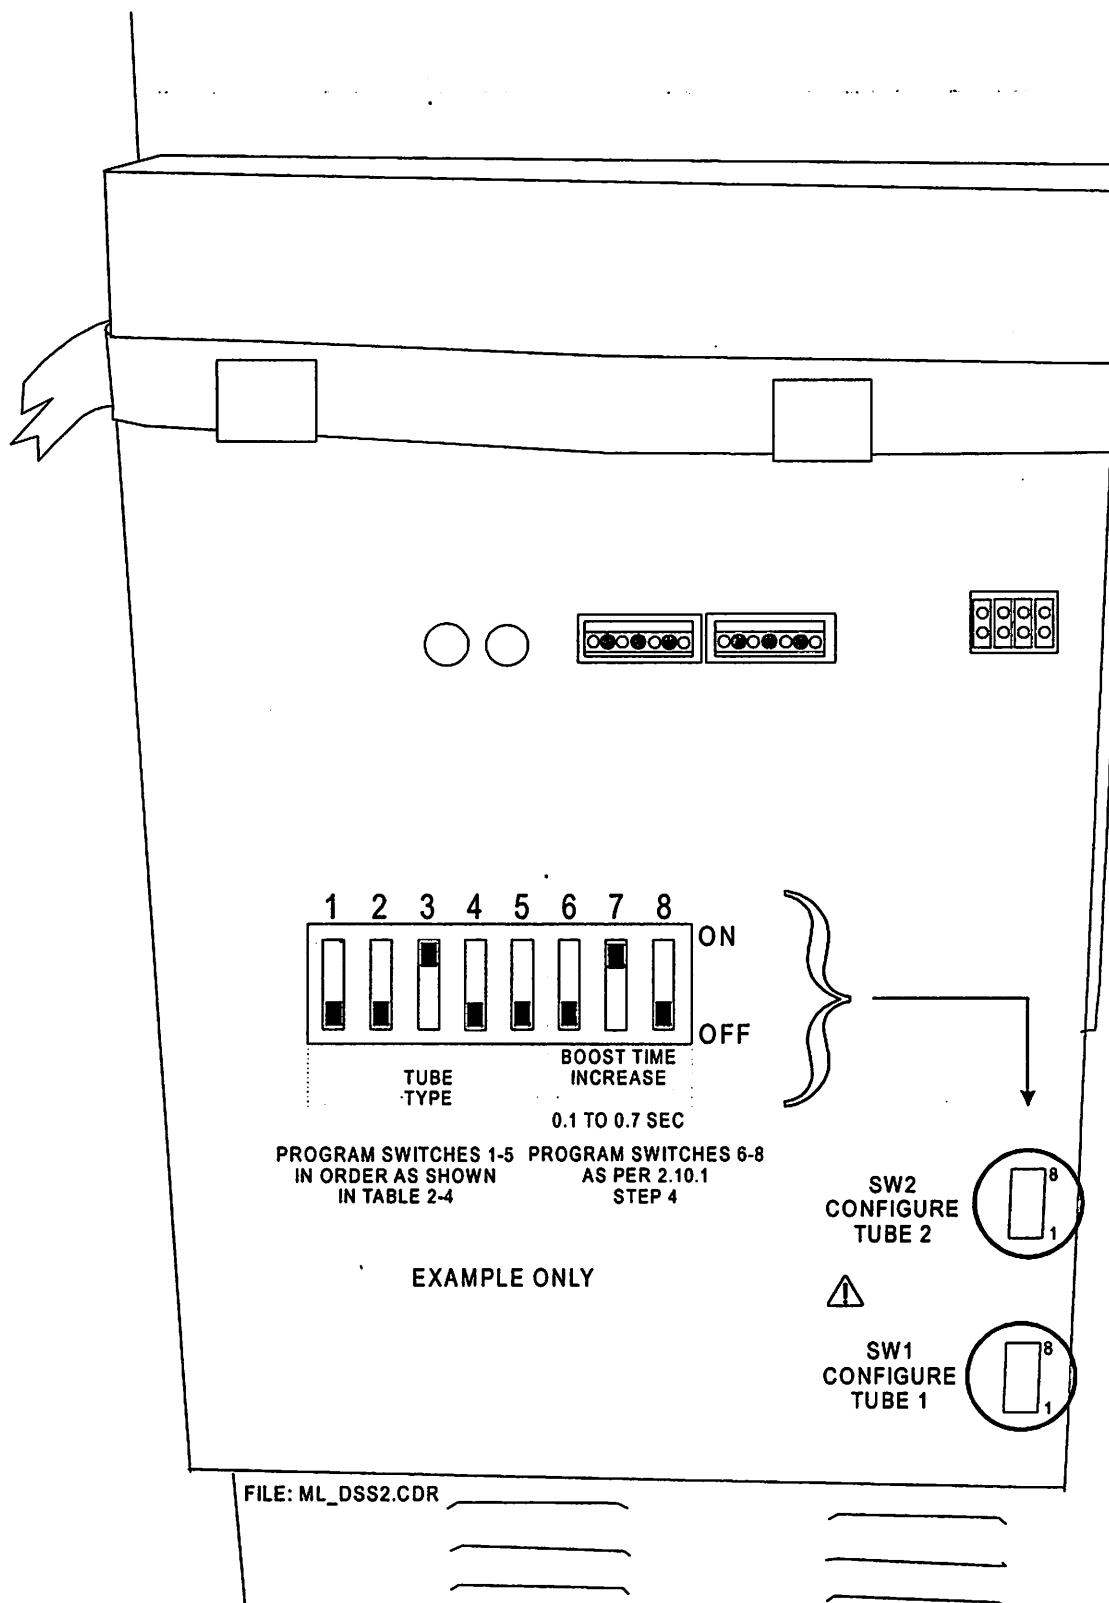

Figure 2-17: DIP switches on dual speed starter.
4. Refer to figure 2-17. Set the DIP switch SW1 (for tube 1) with the binary code for the selected tube. The binary code shown in the table programs the tube type (housing and insert), for example housing type Varian Diamond with standard "R" stator and inserts per table 2-4 requires SW1-1 to be set OFF, SW1-2 OFF, SW1-3 ON, SW1-4 OFF and SW1-5 OFF. This programs the voltages, brake times, and boost times in table 2-4. Additionally, SW1-6 to SW1-8 may be set to give incremental increases in boost time over the preselected values (for example to run an older tube with worn bearings). For example, binary 000 gives zero increase, binary 001 gives 100 ms increase, binary 100 gives 400 ms increase, and binary 111 gives a 700 ms increase in boost time. SW1-6 represents bit 1, SW1-7 bit 2, and SW1-8 represents bit 3.
5. The example DIP switch setting shown in figure 2-17 is for the example in step 4 with an incremental increase in boost time of 200 ms.
NOTE THAT THE EXAMPLE DIP SWITCH SHOWN IN FIGURE 2-17 IS REPRESENTATIVE OF ONE STYLE OF SWITCH ONLY. DEPENDING ON MANUFACTURER, YOUR DIP SWITCH STYLE MAY VARY. PLEASE NOTE THE ON/OFF POSITIONS CAREFULLY FOR YOUR UNIT